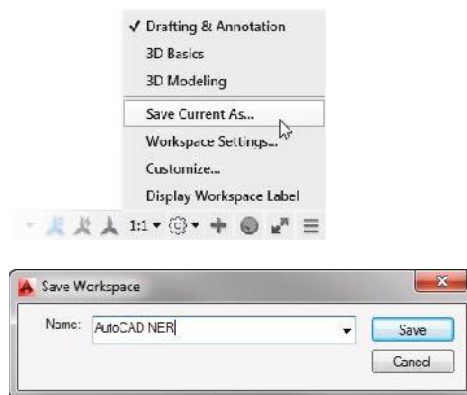

FIGURE 1.27: The Save Workspace dialog box
1. Click the Workspace Switching button on the status bar, and choose Save Current As... from the menu, as shown on the top in Figure 1.27. This opens the Save Workspace dialog box, shown on the bottom in Figure 1.27.